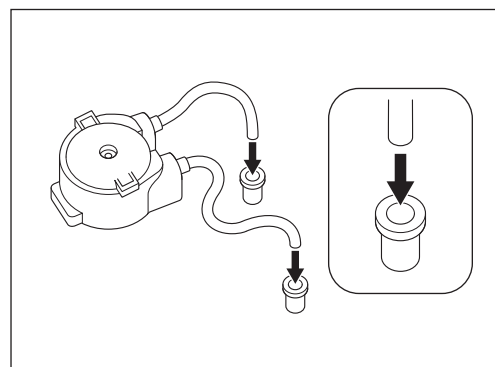

Fig. 53
- 6) Mount the Connector Rings in the Irrigation Tubes of the new Irrigation Pump (option). Make sure the Ring is oriented correctly (Fig. 53).